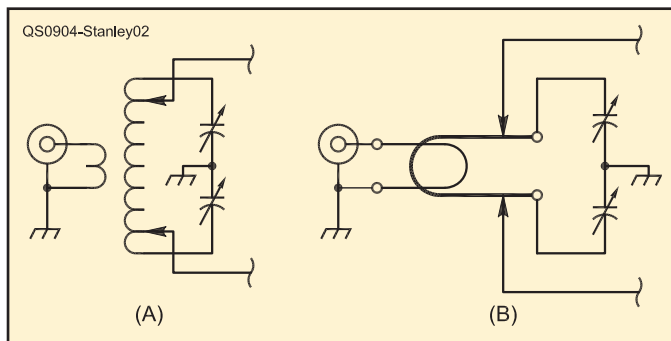

Figure 2 — Balanced tuner configurations. At (A) conventional tapped coil based tuner, at (B) the hairpin equivalent.
Figure 2(A) is a schematic of the conventional tapped link coupled tuner. Figure 2(B) is a representation of what I call a *hairpin* tuner. The electrical properties are essentially identical, but the physical layout of the hairpin type is optimum for the higher frequencies. By making the main inductor in the shape of a hairpin, or shorted transmission line section, instead of a single layer solenoid coil, as is used in the conventional design, the tuner becomes much easier to build and adjust. The use of a short short-circuited transmission line section as an inductor is nothing new. It has been used for VHF/UHF circuits for many years.